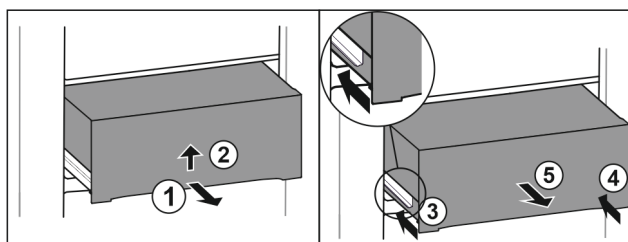

Fig. 45
- Pull out drawer half-way. Fig. 45 (1)
- Lift the drawer from the bottom. Fig. 45 (2)
- Insert left rail. Fig. 45 (3)
- Insert right rail. Fig. 45 (4)
- Remove drawer to the front. Fig. 45 (5)